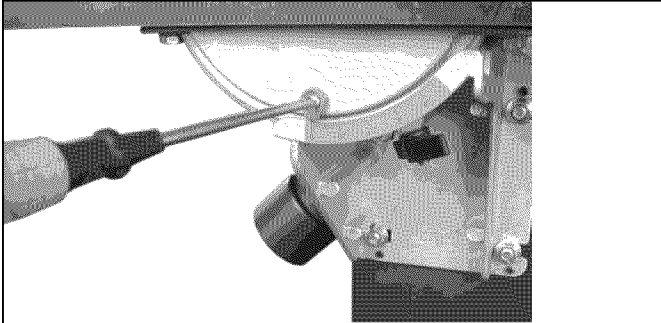

Figure 6 - Set Indicator to Zero
- Loosen the screw securing the indicator and reset if necessary to give zero degree reading. (See Figure 6)